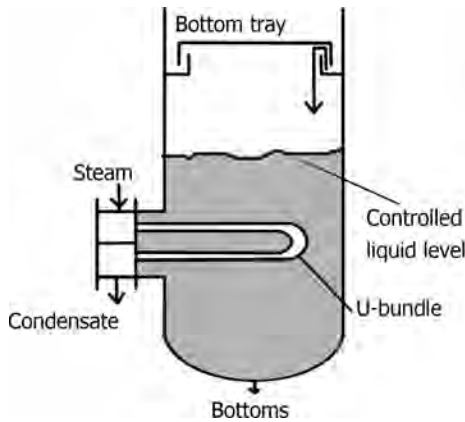

FIGURE 11.8 Column internal reboiler.
- Column internal reboiler is a U-bundle inserted into the side of the column (Figure 11.8). It works as a